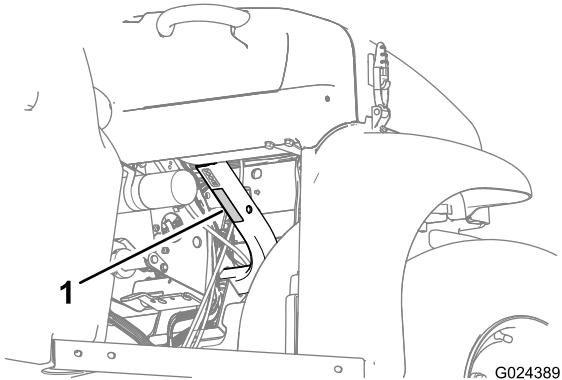

Figure 20
- Observe the weight capacity of the machine and limit the weight of the load that you carry in the cargo box as described in Specifications (page 15) and on the gross vehicle weight tag of the machine (Figure 20).